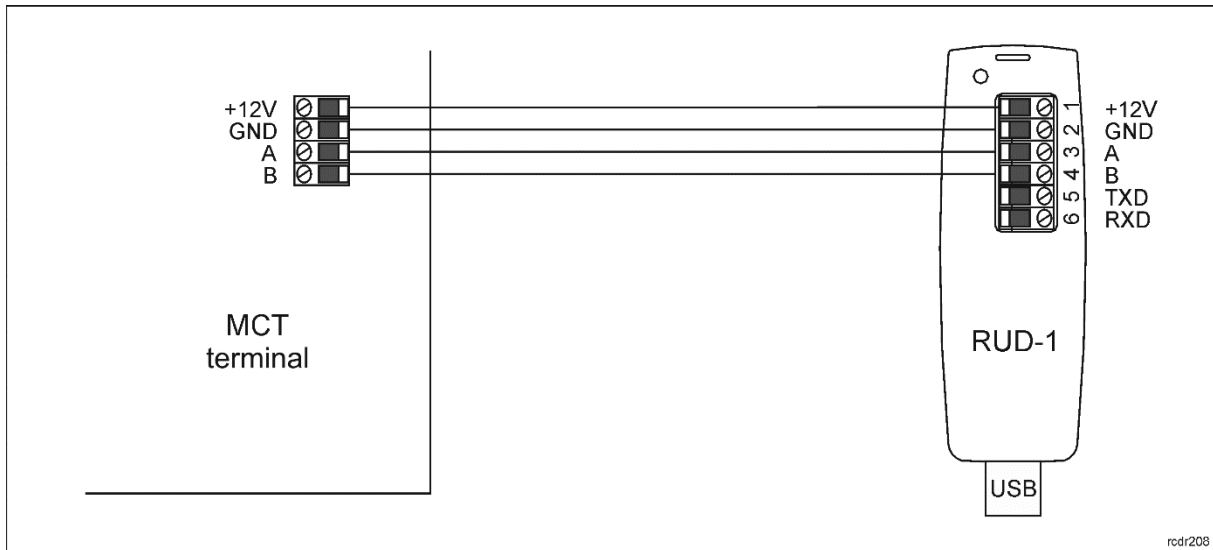

Fig. 8 Connection to RUD-1 interface.
1. Connect the device to RUD-1 interface (fig. 8) and connect the RUD-1 to computer's USB port.
1. Connect the reader to RUD-1 interface (fig. 8) and connect the RUD-1 to computer's USB port.